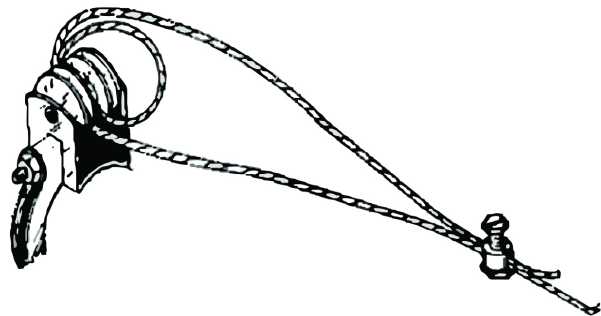

Figure 47. Anti-Roost Cable at the Hopper
2. Start at the hopper end of the line and form a loop around the anti-roost bracket. For best results, make a double loop around the anti-roost insulator in the center groove of the insulator and fasten with a 1/16" cable clamp as shown in **Figure 47**.